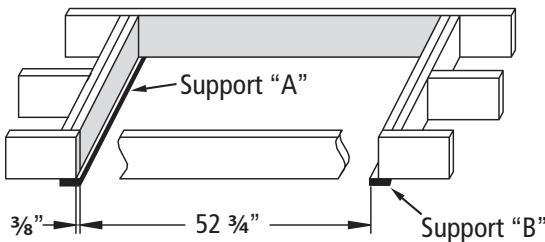

FIGURE 4: View from above
Support "A" should be located at the end where the door hinge of the ladder will go. The edge of support "A" should extend into the rough opening $\frac{3}{8}$ " as shown in Figure 4. Make sure both screws penetrate header above ceiling.
B. Measuring from the inside edge of support "A", locate and secure the inside edge of support "B" $52 \frac{3}{4}$ " from inside edge of support "A" (Figure 4). Make sure both screws penetrate header above ceiling.